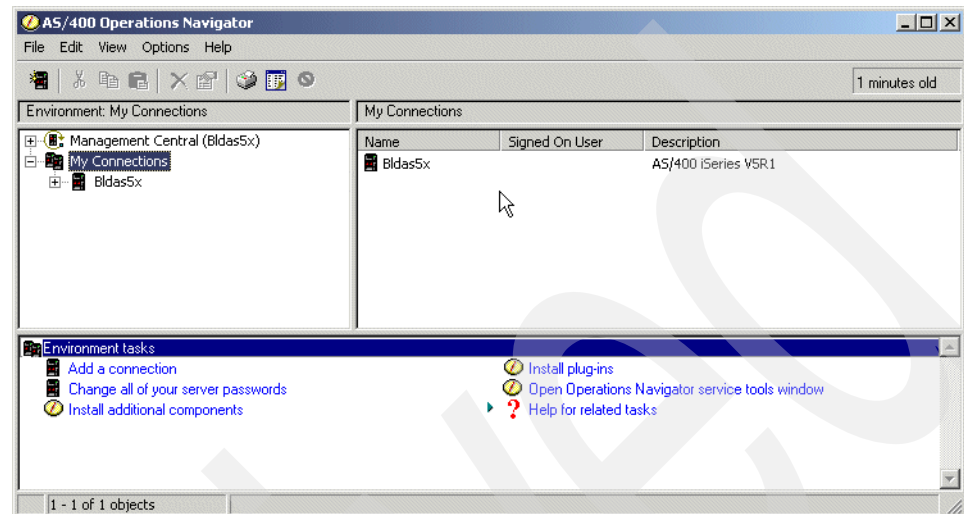

Figure 141. Operations Navigator window
2. Double-click **AS400 Operations Navigator** to invoke it. The Operations Navigator window appears as shown in Figure 141.